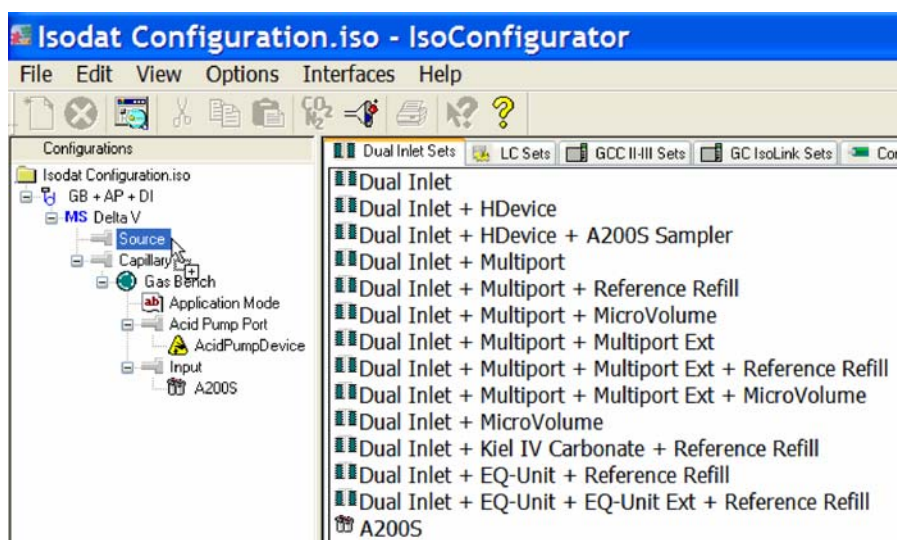

Figure 3-51. Dragging Dual Inlet set to source port
- Add the Dual Inlet by clicking on the Dual Inlet Sets tab and dragging and dropping the simple Dual Inlet hardware set to the Source connection port of the IRMS. See Figure 3-51.